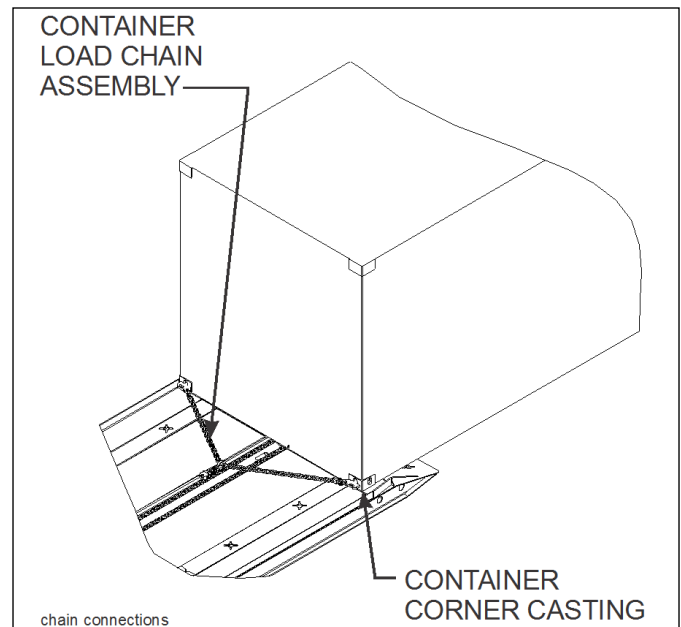

Figure 3-4: Chain Connections
- c. Connect the container chain harnesses provided with trailer to the container corner castings (**See Figure 3-4.**)